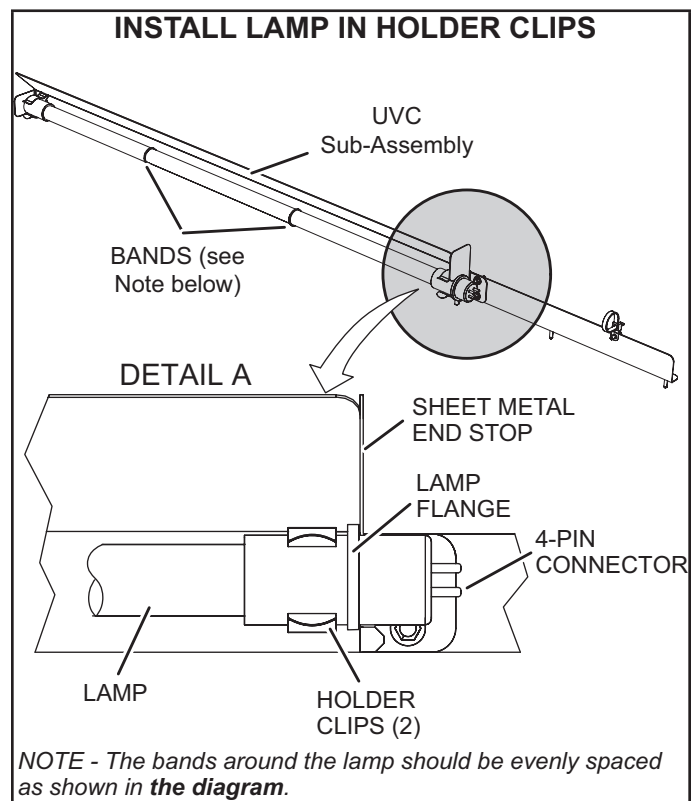

FIGURE 39
- 5 - Remove the (2) mounting screws of the UVC assembly. Carefully slide the complete UVC assembly out through the blower access door.
- 7 - Wear cotton gloves or use a cotton cloth when handling the new lamp. Place the new lamp in the holder clips of the UVC assembly. Verify that the lamp flange at the connector end is sandwiched between the lamp holder clip and the sheet-metal end stop (see FIGURE 39).